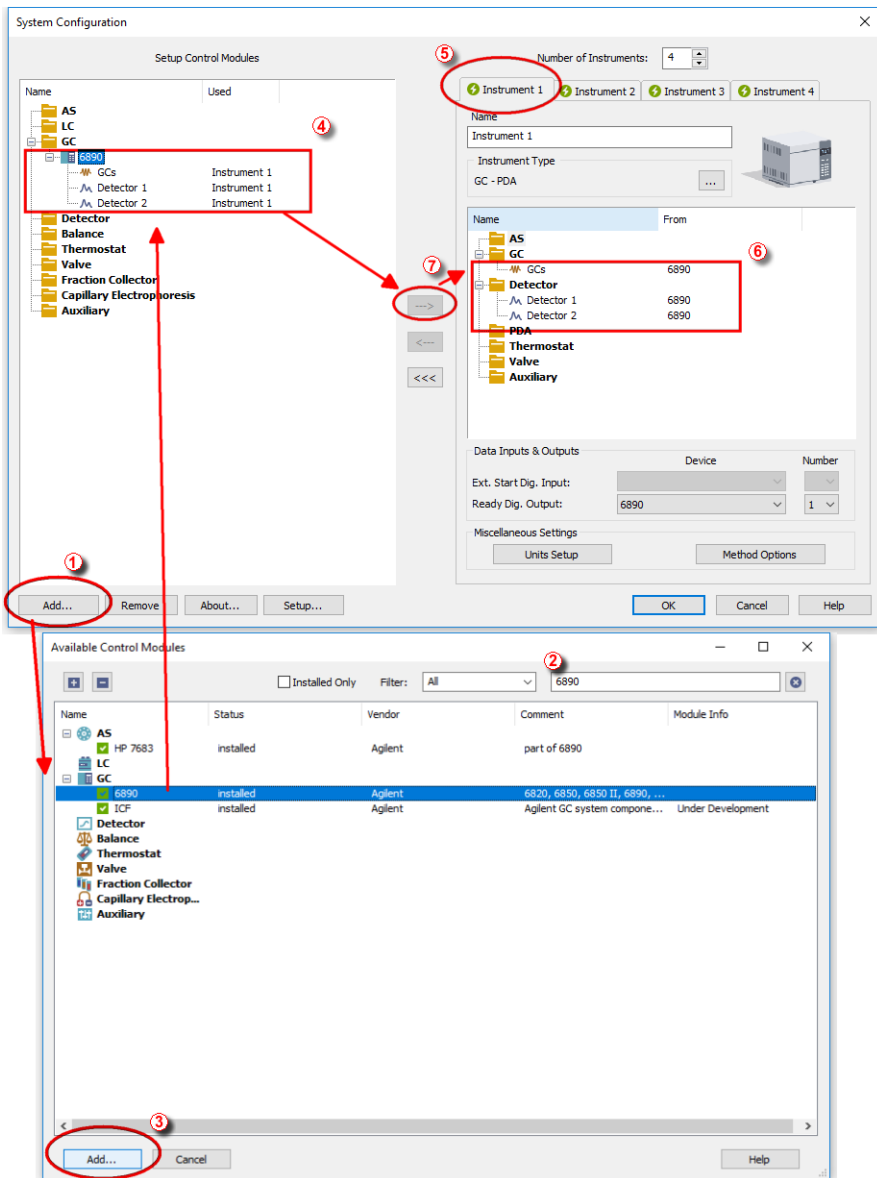

Fig 3: How to add Agilent 6890
- Press the *Add* button ① (see **Fig 3** on pg **9**.) to invoke the **Available Control Modules** dialog.
- You can specify the searching filter ② to simplify the finding of the driver.
- Select the **6890** gas chromatograph and press the *Add* ③ button.